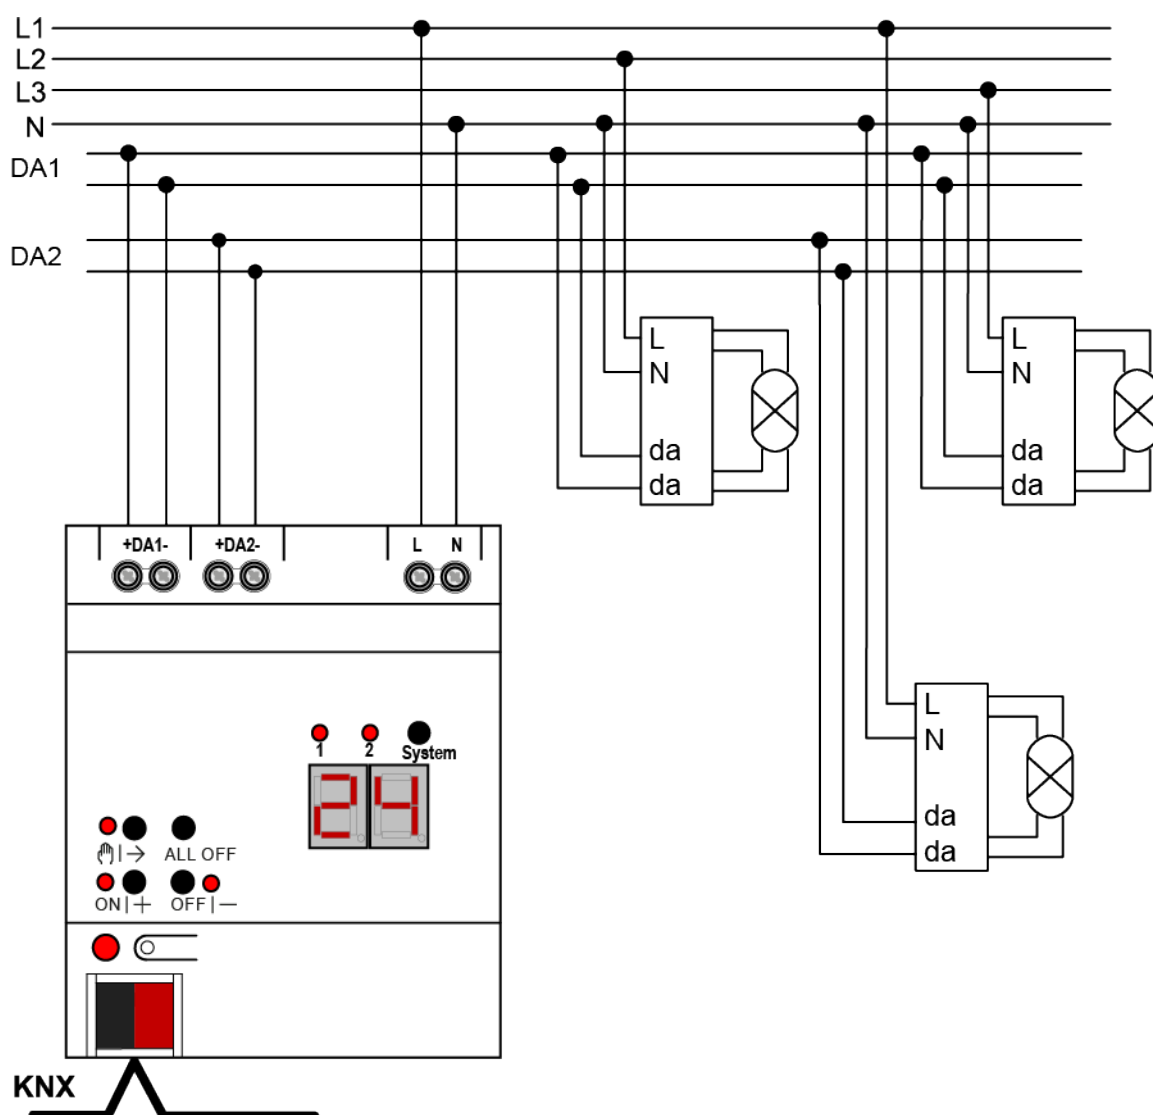

Figure 2: DALI gateway connection example, 2fold
- Connect device as shown in the connection example (see figure 2).